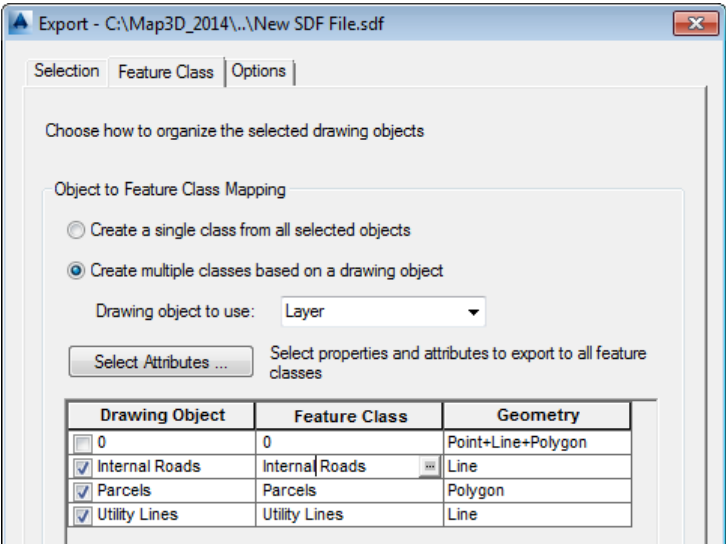

Figure 2-39 The partial view of the Export dialog box showing the browse button displayed in the Internal Roads cell
14. Next, click on the **Internal Roads** cell of the **Feature Class** column in the table; a browse button is displayed in the cell, as shown in Figure 2-39.